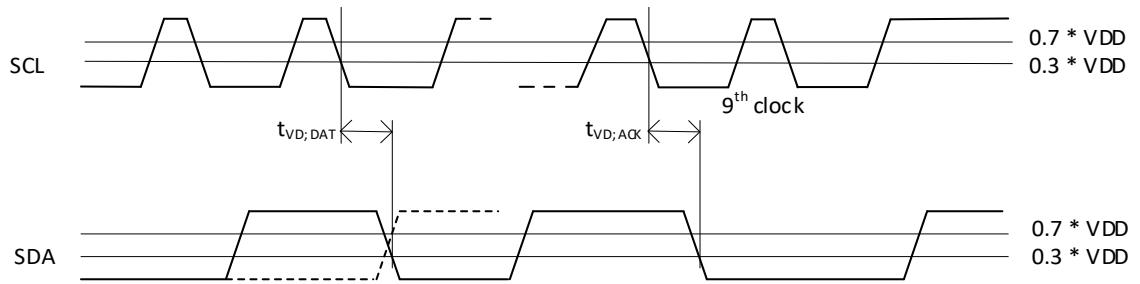

Figure 6-2. Parameter Measurement Waveform:  $t_{VD;DAT}$  &  $t_{VD;ACK}$
1.  $t_{VD;ACK}$  = time for acknowledgement signal from SCL LOW to SDA (out) LOW, see Figure 6-2.
2.  $t_{VD;DAT}$  = minimum time for SDA data out to be valid following SCL LOW, see Figure 6-2.